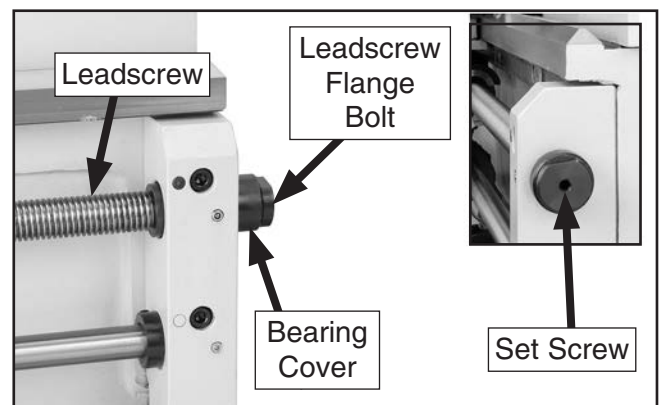

Figure 96. Leadscrew end play bearings.
2. Back out the leadscrew set screw approximately five turns (see **Figure 96**).
3. Un-thread the leadscrew flange bolt (**Figure 96**), and slide the bearing cover off the end of the leadscrew.